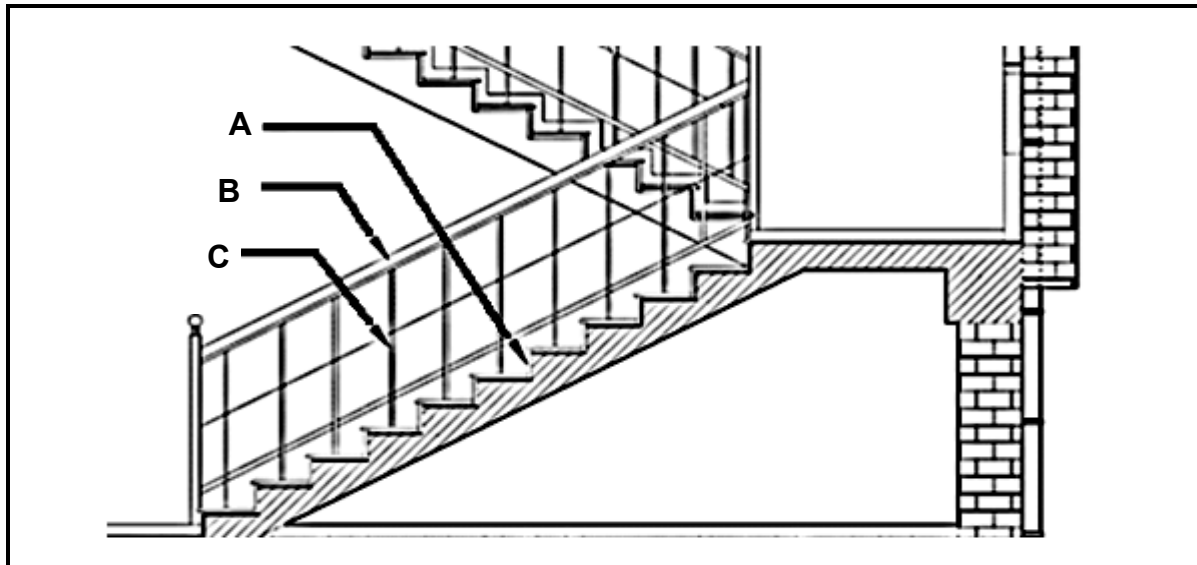

FIGURE 3.5
3.5 Name the parts **A** to **C** of the stair construction in FIGURE 3.5.